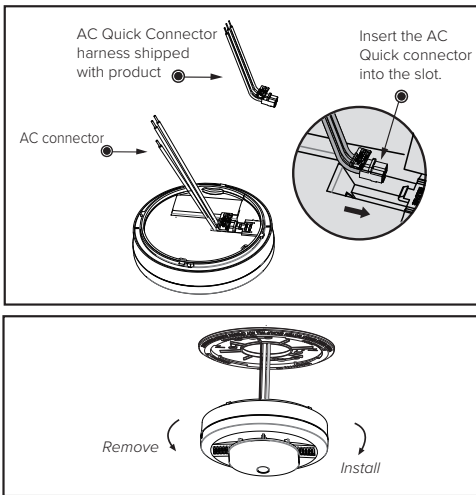

Figure 9.3-A
- After selecting the proper location for your alarm, and wiring the AC QUICK CONNECTOR harness as described previously, attach the mounting bracket to the electrical box using the existing screws or, if included, the screws provided with this alarm. To ensure aesthetic alignment of the alarm with the hallway, or wall, the "A" line on the mounting bracket should be parallel with the hallway when ceiling mounted or horizontal when wall mounted. (See Figure 9.3-A)
- Pull the AC QUICK CONNECTOR through the center hole in the mounting bracket and secure the bracket, making sure that the mounting screws are positioned in the small ends of the keyholes before tightening the screws. (See Figure 9.3-A)